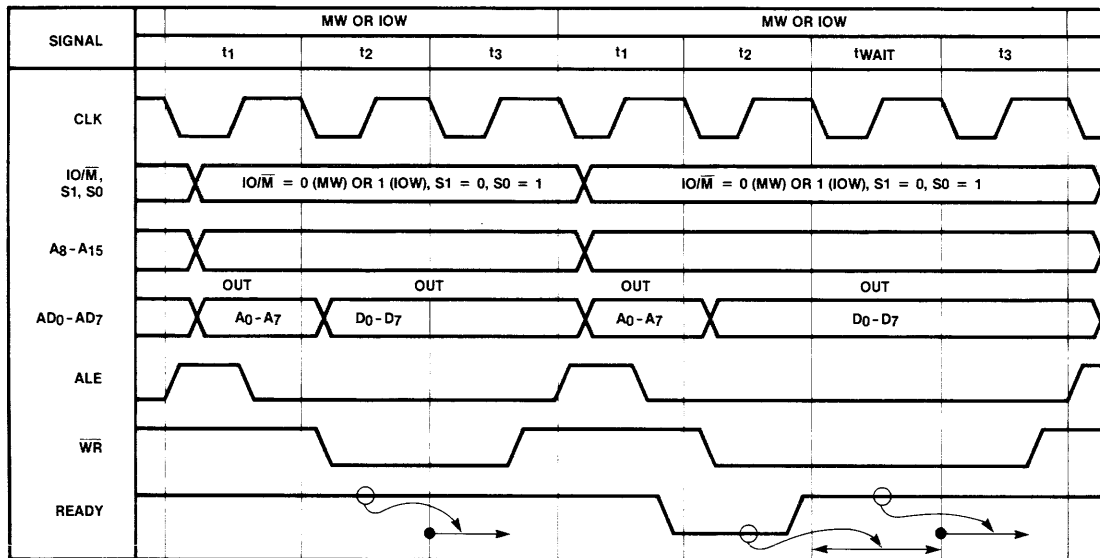

Figure 4-7. Memory Write (or I/O Write) Machine Cycles
**4-22. MEMORY WRITE TIMING.** Figure 4-7 shows the timing of two successive memory write machine cycles, the first without a  $T_{wait}$  state. Again, disregarding the states of the S0 and S1 lines, the timing during  $T_1$  is identical to the timing of an opcode fetch, memory read, and I/O read cycles. The difference occurs, however, at the end of  $T_1$ . For instance, in a memory read cycle the AD0-AD7 lines are disabled (high impedance) at the beginning of  $T_2$  in anticipation of the returned data. In a memory write cycle, the AD0-AD7 lines are not disabled and the data to be written into memory is placed on these lines at the beginning of  $T_2$ . The Write (WR/) line is driven low at this time to enable the addressed memory device. During  $T_2$  the READY input is checked to determine if a  $T_{wait}$  state is required. If the READY input is low,  $T_{wait}$  states are inserted until READY goes high. During  $T_3$ , the WR/ line is driven high to disable the addressed memory device and terminate the memory write operation. Note that the contents on the address and data lines do not change until the next  $T_1$  state.
**4-23. I/O WRITE TIMING.** Figure 4-7 also illustrates the timing of the two successive I/O write machine cycles, the first without a  $T_{wait}$  and the second with one  $T_{wait}$ . With the exception of the  $IO/\overline{M}$  status signal, the timing of a memory write cycle and an I/O write cycle are identical.